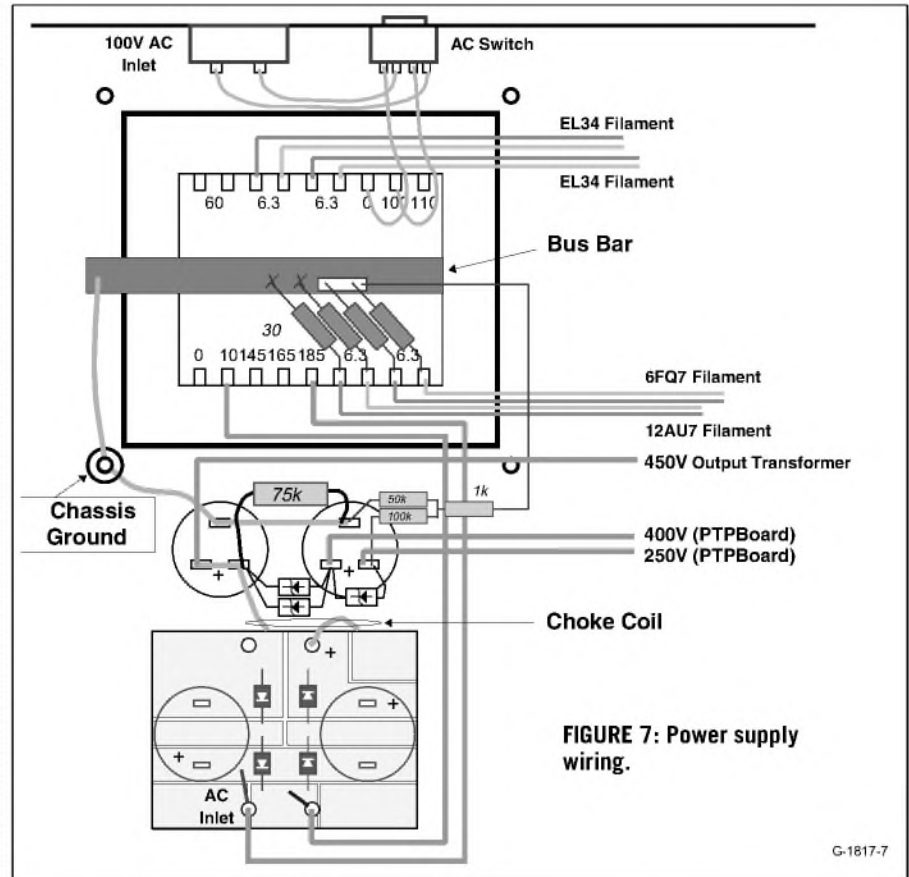

FIGURE 7: Power supply wiring.
5. The DC power line wiring is Teflon-insulated (*Fig. 7*).